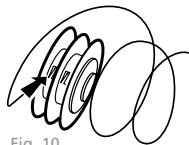

Fig. 10
3. Attach the nylon on the reel (arrow in Fig.10) and wrap it carefully.